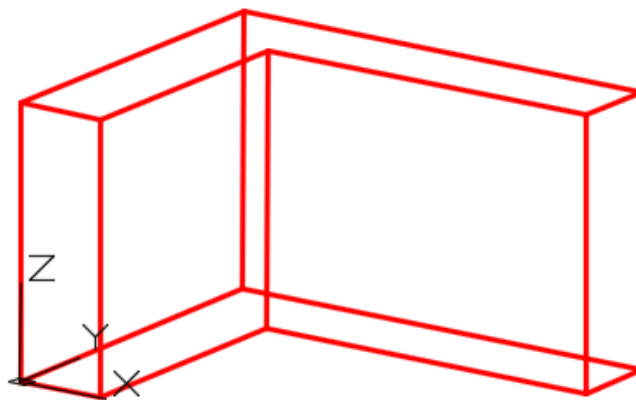

Figure Step 8
Step 8 Using the LINE command, draw the 6 vertical lines. Ensure that you enable object snap and snap to endpoints of the existing lines. (Figure Step 8)